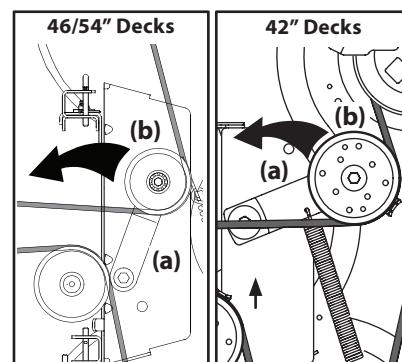

Figure 4-10
- b. Working from the middle of the tractor, pivot the idler bracket (a) and movable idler pulley (b) rearward away from the backside of the "V" belt just far enough to lift the belt up and over the idler pulley. See Figure 4-10.